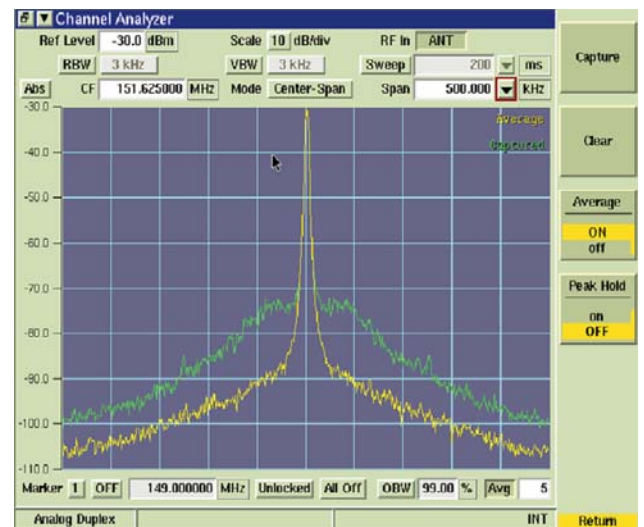

Figure 1.0: Signal Generator Quality Analysis – Green shows high levels of noise
When you want to measure the quality of a radio test set, look at the quality of its signal generators for RF and Audio. Use a good spectrum analyzer to have a close look at the RF CW signal and watch the noise shoulders (sideband noise) of the generators at all level ranges. With some generators the sideband noise was not less than 20 dB below the carrier signal, and that could cause major measurement uncertainty on the device under test. With such high levels of noise, usually a result of poor Phase Noise or excessive residual FM from the Local Oscillator (LO), the receiver sensitivity tests will always lead to a confusing and inaccurate test result. See Figure 1.0 on signal generator quality analysis.